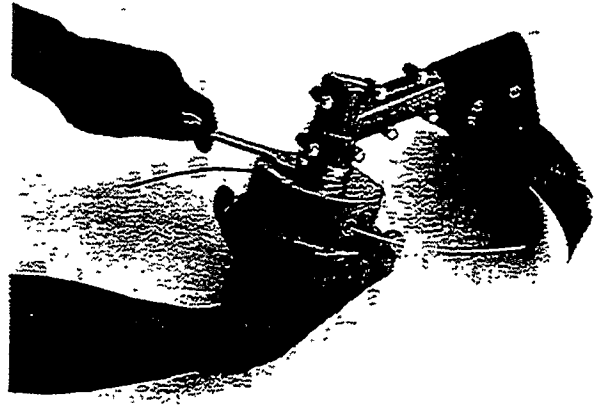

Figure 14
- While holding holder (B) with large spanner wrench, thread rotary head onto gearcase as shown (Figure 14). Tighten rotary head as tight as possible by hand.